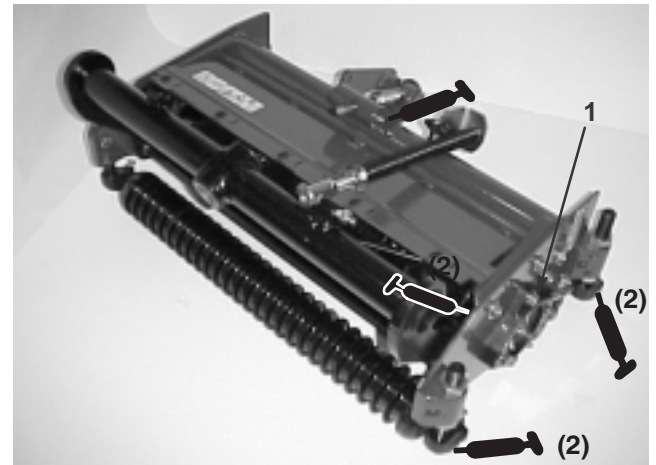

Figure 15
Each cutting unit has (7) grease fittings (Fig. 15) that must be lubricated regularly with No. 2 General Purpose Lithium Base Grease.